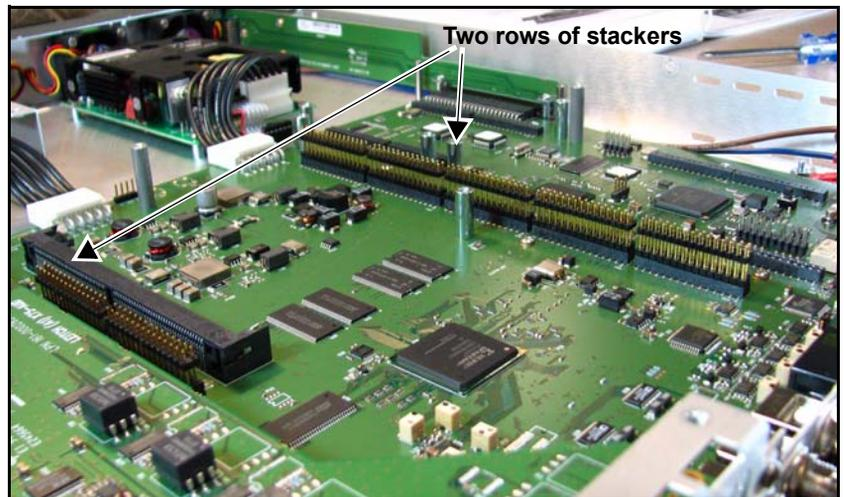

Figure C-16. Stackers on the Main Board
2. Insert the supplied stackers onto the main module (Figure C-16).